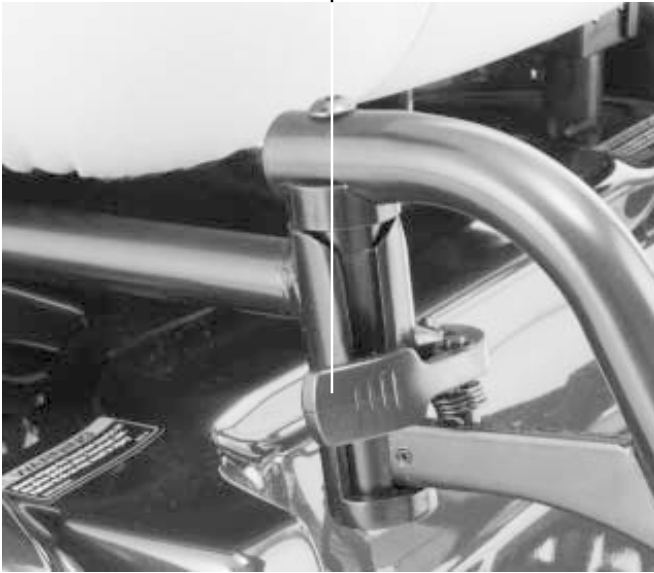

Figure 15. Swing-Away Footrests
1. Push in the release lever. See figure 15.